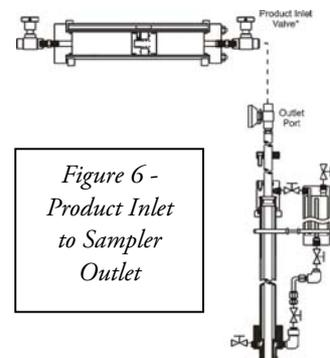

Figure 6 - Product Inlet to Sampler Outlet
2. After pre-charging the cylinder above pipeline pressure (see Section 2.2), connect the product inlet valve of the cylinder to the sampler outlet port (see Figure 6).